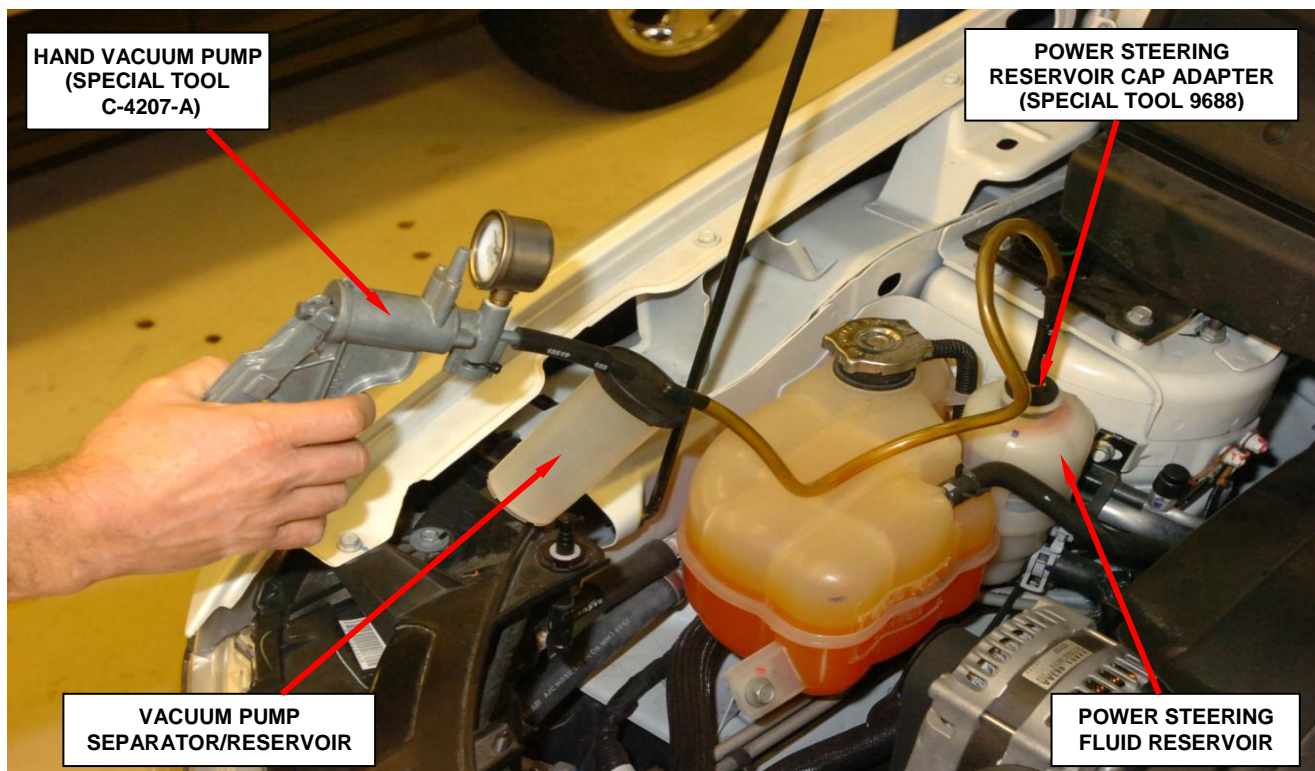

Figure 24 – Removing Air from Power Steering System
2. Tightly insert the Power Steering Fluid Reservoir Cap Adapter, Special Tool 9688, into the mouth of the power steering reservoir (Figure 24).
3. Attach a hand Vacuum Pump (Special Tool C-4207-A or equivalent) with separator/reservoir attached, to the Power Steering Fluid Reservoir Cap Adapter (Special Tool 9688) (Figure 24).